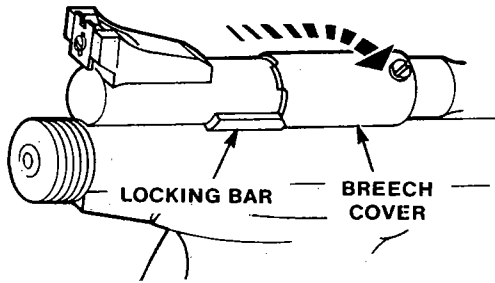

FIG. 4
- PUSH THE BREECH COVER FORWARD ALL THE WAY AND TURN IT TO THE RIGHT SO IT LOCKS IN FRONT OF THE LOCKING BAR. (Fig. 4 - Page 8). If you attempt to fire the pistol with the breech cover open with a pellet or BB in the breech, the pellet or BB may fly back toward you.